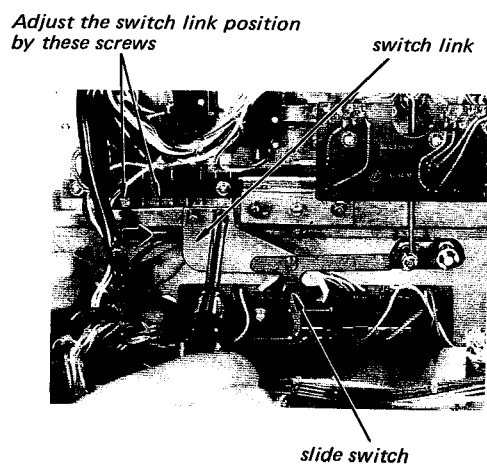

Fig. 8.
ESP Microswitch Adjustment (Fig. 8.)
- (1) Remove the starter switch ass'y as shown in Fig. 8.
- (2) In the stop mode loosen the screw at the right side of the microswitch.
- (3) Position the microswitch for the contact of its button and the microswitch arm as shown in the circle.
- (4) Tighten the loosened screw.